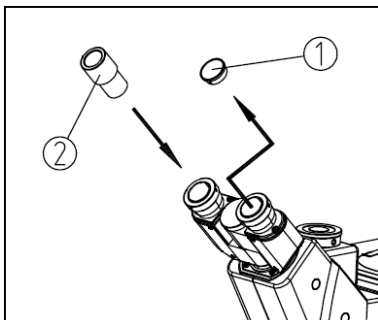

Fig.7
- (1) Take off eyepiece cap ①. (Fig. 7)
- (2) Insert the eyepiece ② to tube.